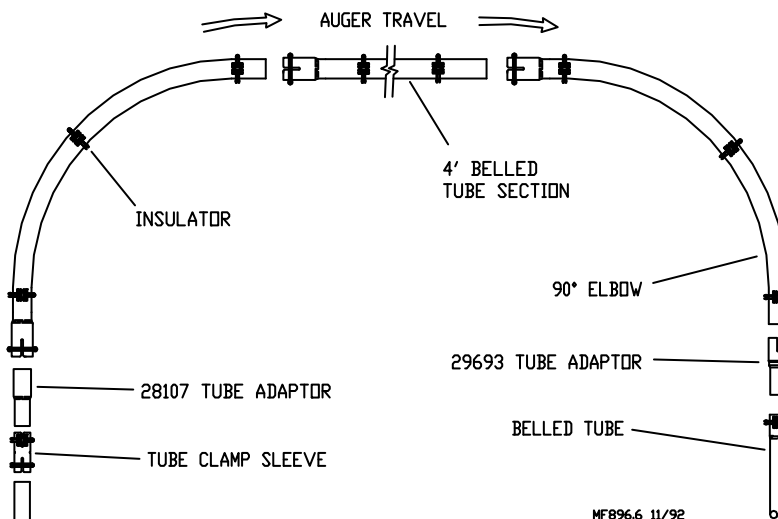

Figure 24. (Side View)
- Assemble the elbows and related components as shown in **Figure 24**. Temporarily support the elbows until the suspension system is installed.